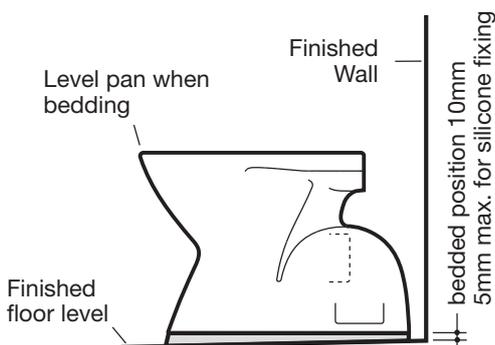

Fig. 3
4. Position pan and connect with pan connector then level pan into bedding mixture, so that the back of the foot of the pan is approximately 10mm above the finished floor as detailed in Figure 3. It is recommended that wedges are used to support the foot of the pan during the positioning.